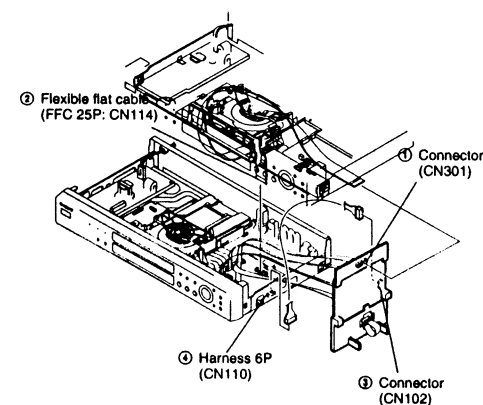

Fig. 5
- 6) Set the flexible flat cable and harness as shown in Fig. 5.